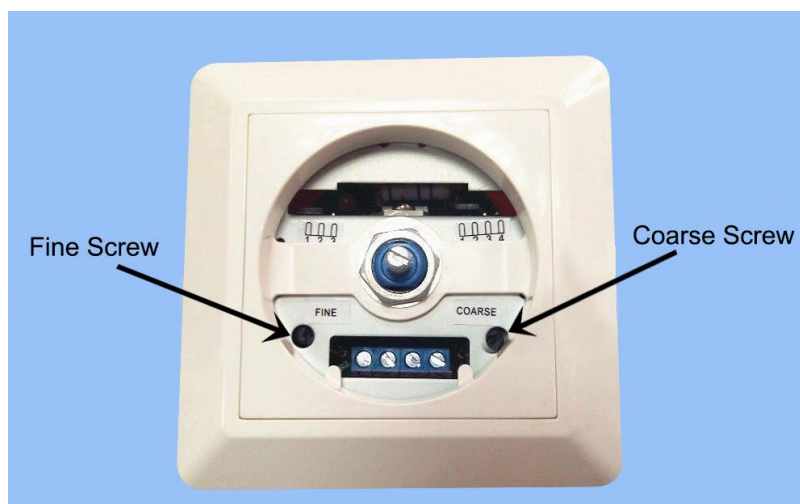

Fig. 6 Performance Optimization of BRT-D205
For some LED lights, dimming range may be limited and there may be flickering. The dimmer can be tuned to achieve the best performance. Performance optimization is realized by adjusting the two tuning screws behind the middle plate, as shown in Fig. 6.
2. Remove the knob and the middle plate to have access to the two tuning screws as shown in Fig. 6; and
1. If there is flickering, remove the knob and the middle plate to have access to the two tuning screws as shown in Fig. 6;